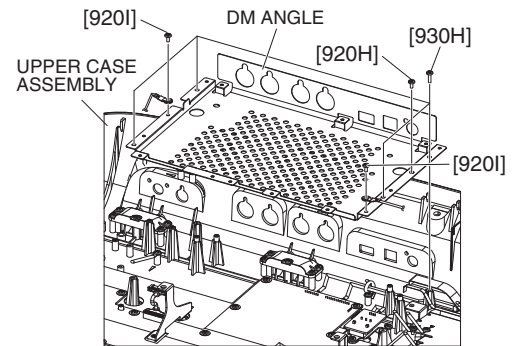

Fig. 8
- 15-3 Remove the four (4) screws marked [930H] and the screw marked [920H] and the two (2) screws marked [920I]. The DM angle can then be removed. (Fig. 8)